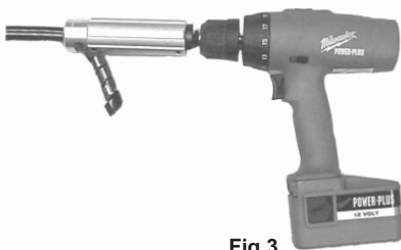

Fig.3
Step 3. (Fig. 3) Operate the drill at low speed and apply slight forward pressure to the tool. Continue forward pressure until the length of the strip is complete. The cable covering will be removed until the cable conductor reaches the internal stop bar. The blade will automatically sever the covering evenly at the end of the cut.